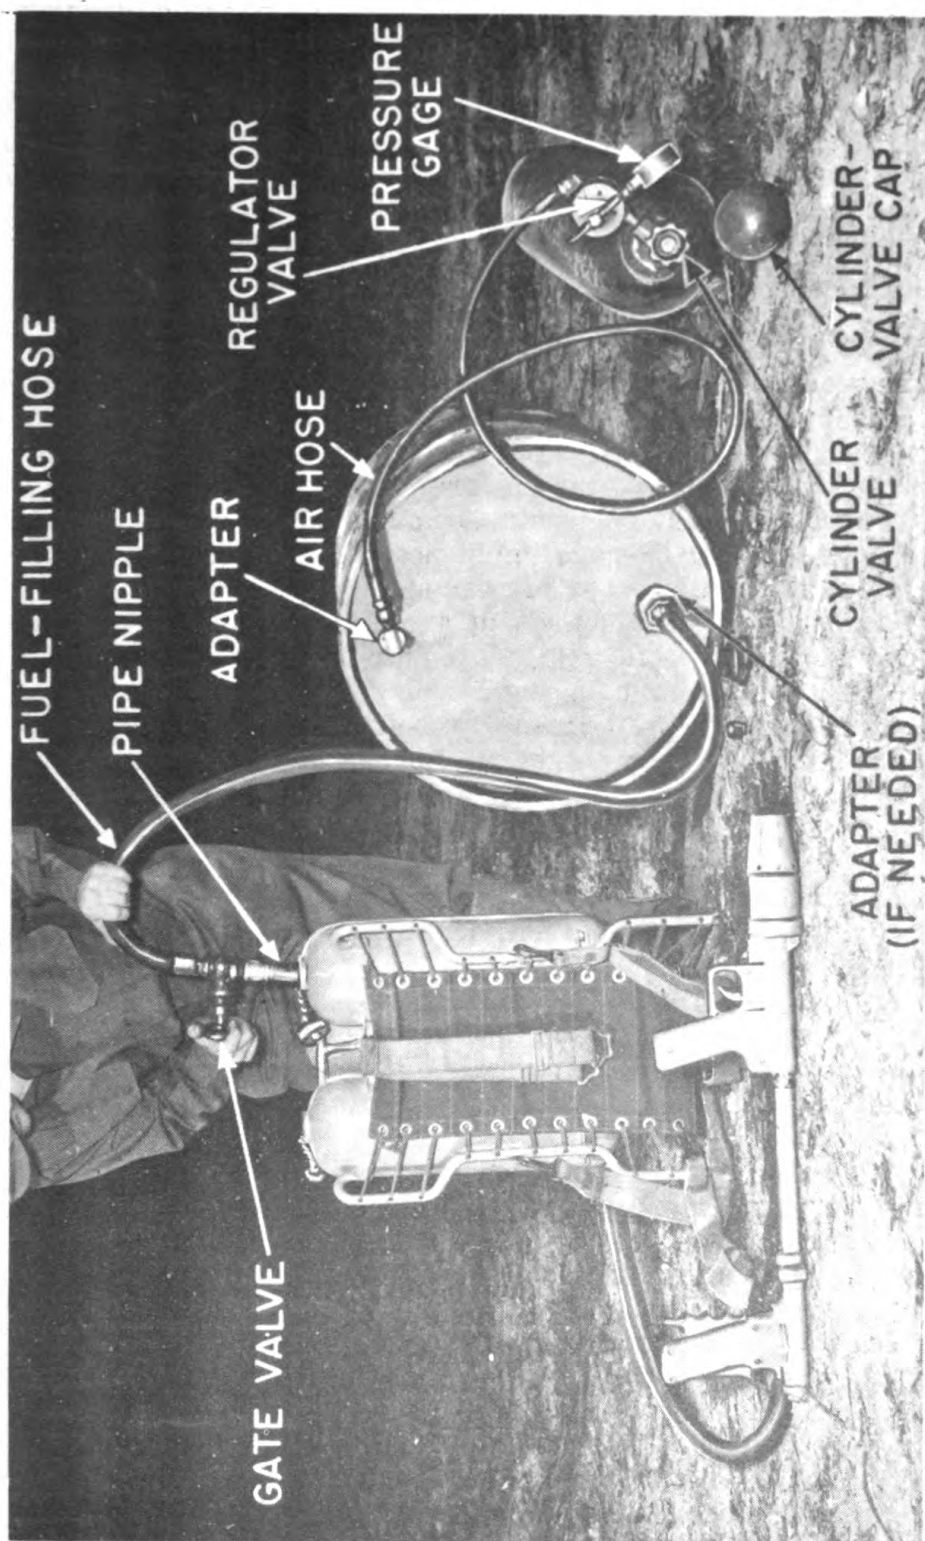

Fig 30. Blowing thickened fuel into fuel tanks by use of cylinders of compressed air or nitrogen.
c. Connections. The source of pressure (see a above), the drum of fuel, the fuel-filling line, the air hose, and other parts, are connected as shown in Figure 30. Threaded adapters are used, as necessary, to fit lines to the drum. All threaded connections should be made tight by the use of wrenches on the joints. The drum and the pressure cylinder (if the latter is used) should be laid on their sides on the ground or a platform. The opening of the drum connected to the fuel-filling hose should be close to the ground or platform. If tank group is filled without gun group, lock coupling plug (Par 70) in tank coupling.
- (1) Remove both the filling and safety-head plugs.
- (2) Inspect interior of tanks to see if clean and free from foreign matter. If not clean, flush with gasoline.
- (3) Place end of fuel-filling hose in either one of the two fuel-tank plug holes, using a nipple as a spout.
- (4) Start air compressor or pump, or open the valve on the cylinder of compressed air or nitrogen. Open regulator valve on filling line by turning handle slowly until gage shows 15 to 20 pounds pressure, but no more. Caution: "Cracking," or opening a cylinder valve without using the proper regulator valve (Par 39 a), may result in explosive pressure in the drums.
- (5) Both tanks must be filled to within 2 inches of their tops. Close valve on fuel-filling hose to halt flow at this level.
- (6) If no additional flame throwers are to be filled, close pressure-cylinder valve, or stop compressor or pump. Then, using wrench, slightly loosen the air line at the drum, allowing pressure to bleed. When the pressure in the drum has fallen to that of the atmosphere, close regulator valve.
(7) Roll drum slightly and gently until fuel-filling hose is at top of drum.
(8) If there are valves on each end of the fuel-filling hose, use wrench to slightly loosen hose, allowing gradual escape of pressure. Stand away from, and at the side of, the connection. Keep hose pointed away from other personnel. When all pressure has been released, complete unscrewing of hose.
(9) Wipe fuel-tank plug seats and the plug threads with a clean, dry cloth. Then screw in filling plug and safety-head plug assemblies, applying grease (Par 49 b) if plug tends to freeze to seat. Tighten with wrench. Wipe any spilled fuel from weapon.